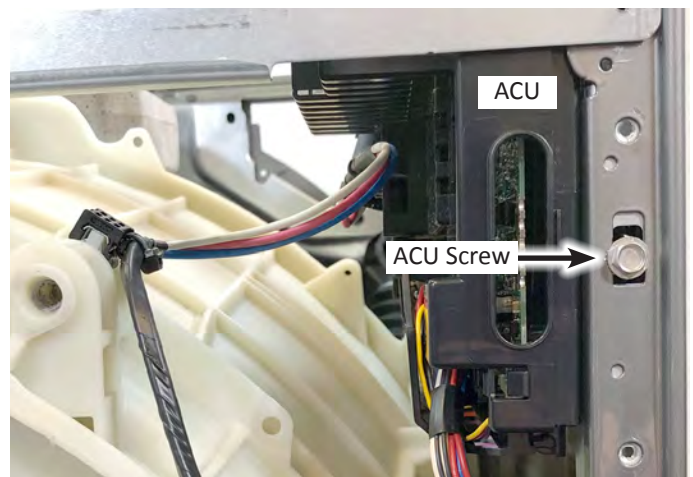

Figure 3
11. Using a 5/16" nut driver, remove the ACU retainer screw from the rear left panel (see Figure 3).